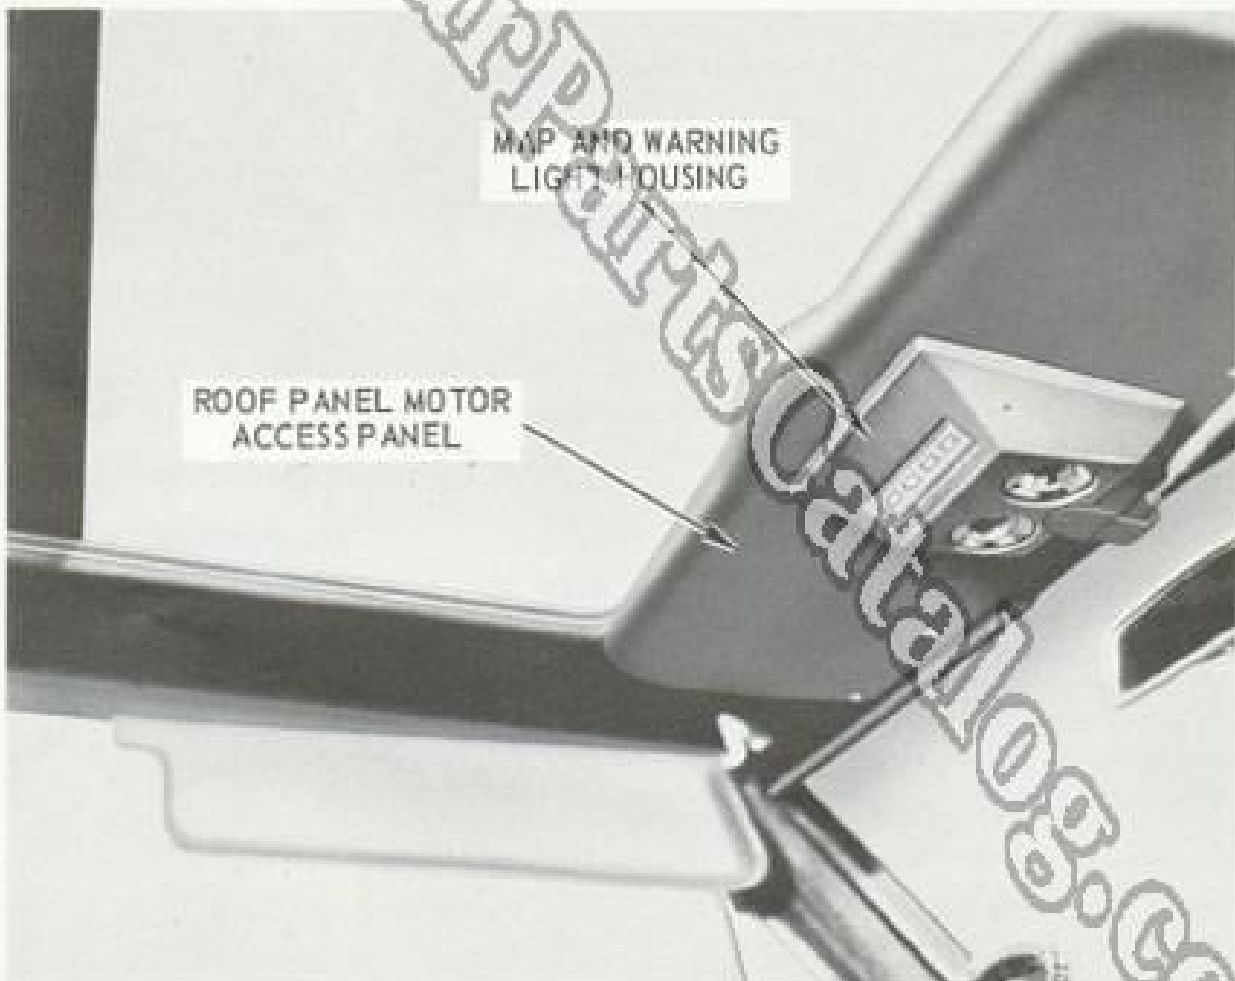

Fig. 12 – Roof Panel Motor Access Panel
- 2A. **Remove the map and warning light housing if so equipped, and the sun visor center bracket. (See figure 12).
- 3A. **Remove six screws at front edge of the roof panel motor access panel. (See figure 12). Pull access panel rearward until free of the retaining clips.
- 9A. **Remove the map and warning light housing if so equipped, and the sun visor center bracket. (Refer to figure 12.)
- 9A. **Remove six screws at front edge of the roof panel motor access panel. (See figure 12). Pull access panel rearward until free of retaining clips.